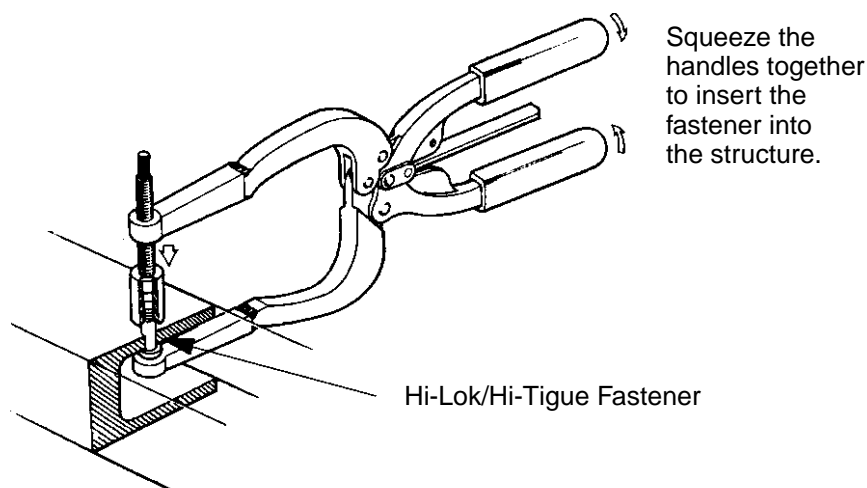

Figure 7 - Use of SD8948 Insertion Tool
- 5.5.5 If pin insertion using a squeeze gun or a rivet gun is not possible, seat the pin using an SD8948 installation tool (see Figure 7).